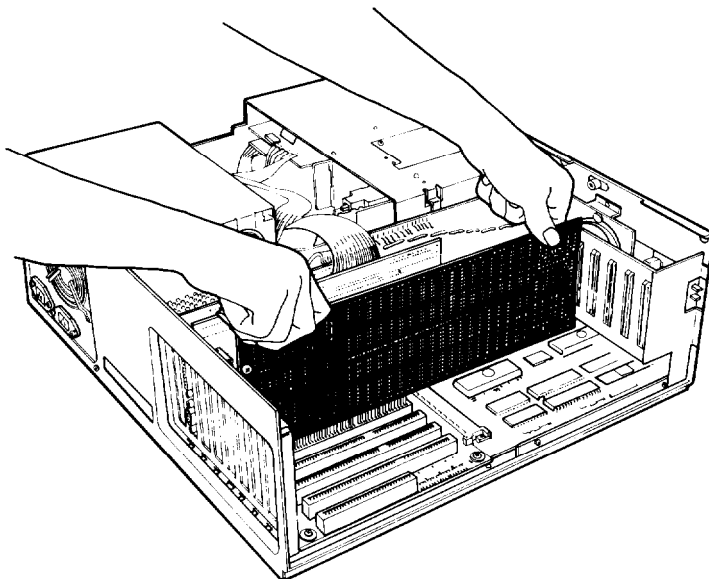

Figure 4-7. Inserting an *option card*
4. Insert the card in the slot as shown in Figure 4-7. When the card is almost all the way in, make sure the tab at the bottom of the metal adapter plate on the end of the card goes into the corresponding notch at the back of the computer.